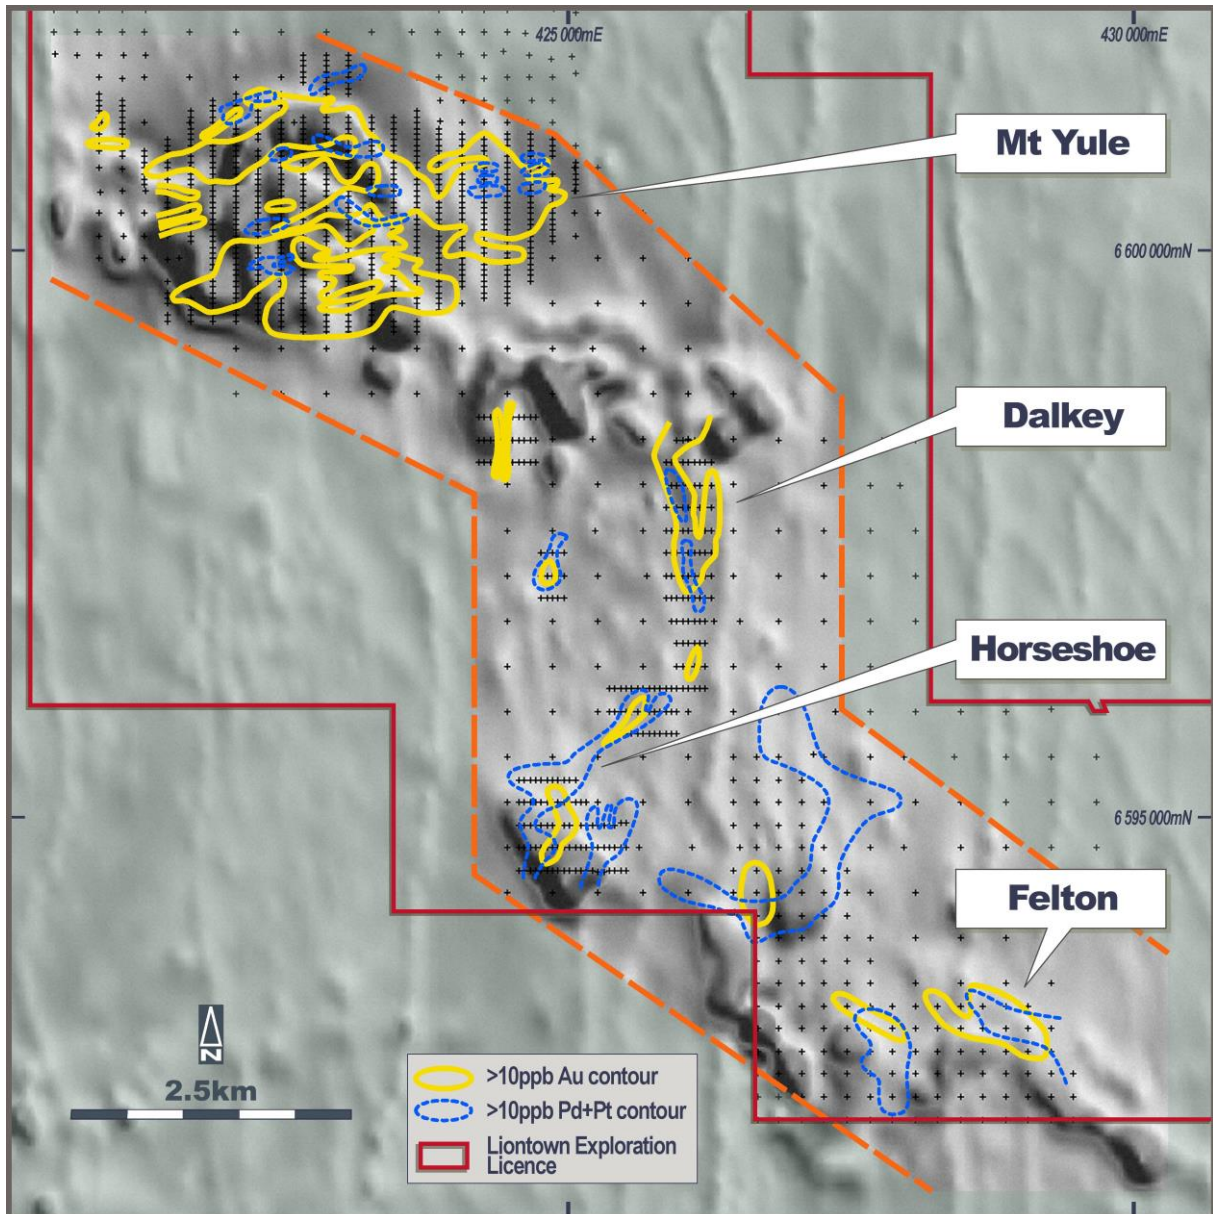

Figure 3: Moora Project/Mt Yule – Felton Corridor: Grey scale magnetic image showing gold and PGE anomalies defined by auger drilling.
- The 15km long, north-west trending **Mt Yule-Felton Corridor** located in the western part of the Project, which is defined by the alignment of multiple, coincident gold, PGE and magnetic anomalies (**Figure 3**); and
Mt Yule – Felton Corridor (Figure 3)